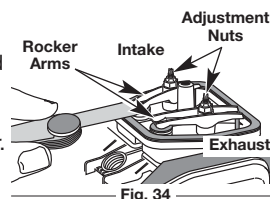

Fig. 34
7. Slide the feeler gauge between the rocker arm and the valve return spring. Measure the clearance between the valve stem and rocker arm (Fig. 34). Measure both the intake and exhaust valves.
The recommended clearance for both intake and exhaust is .003 – .006 in. (.076 – 0.152 mm). Use a standard automotive .005 in. (0.127 mm) feeler gauge. The feeler gauge should slide between the rocker arm and valve stem with a slight amount of resistance, without binding (Fig. 34 and 35).